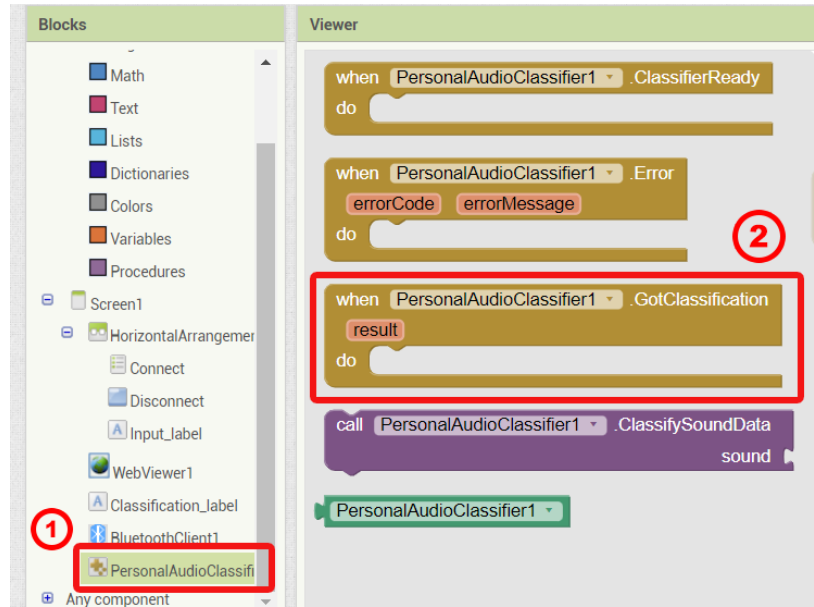

Figure 35: Finding the when PersonalAudioClassifier1 .GotClassification...result ..do.." event block command
For this step of programming, the event block command “when PersonalAudioClassifier1.GotClassification...result...do” (2) located in the floating menu of the PersonalAudioClassifier component (1), must be implemented (Figure 35). Drag and drop this event block command onto the area where the code is assembled.